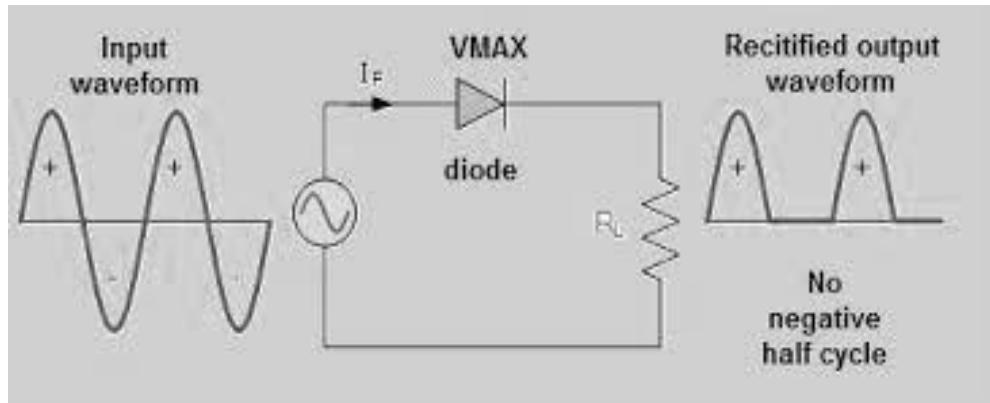
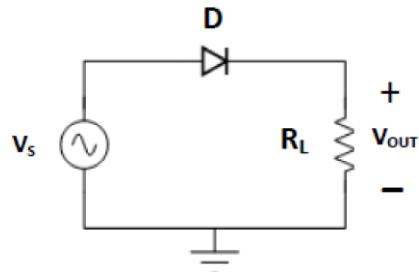

Fig 5.2 Half wave rectifier without filter
Fig.5.4 Half-wave rectifier circuit
The output of a rectifier gives a pulsating d.c. signal (Fig.5.2) because of presence of some a.c. components whose frequency is equal to that of the a.c. supply frequency. Very often when rectifying an alternating voltage we wish to produce a "steady" direct voltage free from any voltage variations or ripple. Filter circuits are used to smoothen the output. Various filter circuits are available such as shunt capacitor, series inductor, choke input LC filter and π -filter etc. Here we will use a simple **shunt capacitor** filter circuit (Fig.5.4). Since a capacitor is open to d.c. and offers low impedance path to a.c. current, putting a capacitor across the output will make the d.c. component to pass through the load resulting in small ripple voltage.
1. Make the connection as per the circuit diagram shown in fig. 5.4 & 5.5